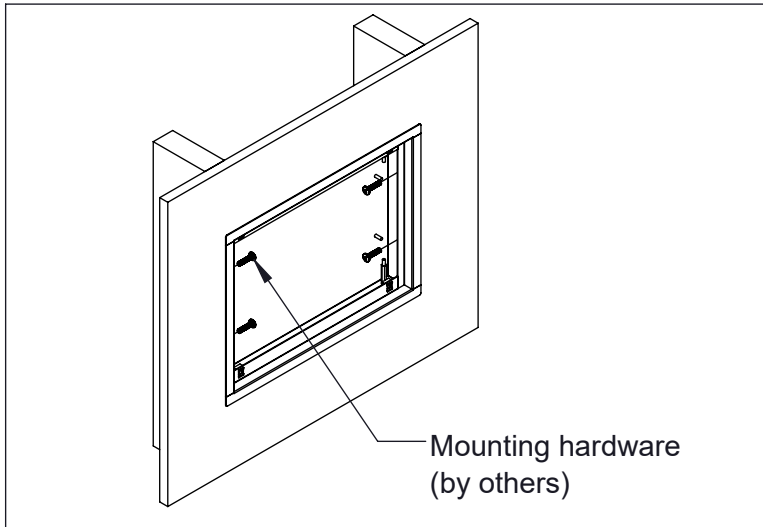

Figure 6
4. Fasten housing into wall (Fig. 6).